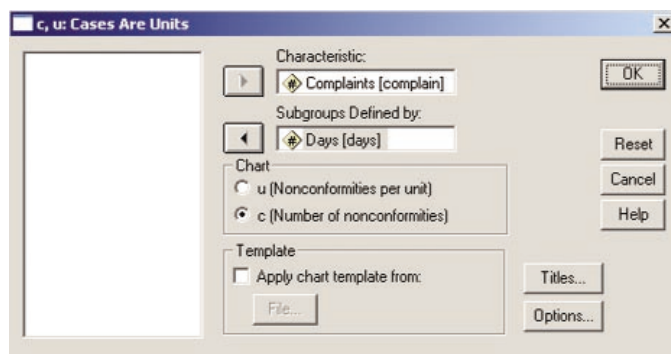

FIGURE A18.9 SPSS c , u : Cases Are Units Dialog Box
2. In the c , u : Cases Are Units dialog box (see Figure A18.9), enter **Complaints** in the Characteristic: edit box and **Days** in the Subgroups Defined by: edit box. Select the **c (Number of nonconformities)** Chart option button. Click the **OK** button.